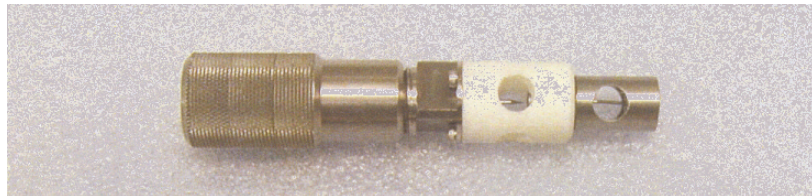

Figure 6-12 Nanospray Assembly
3. Shake down the assembly to allow the liquid to flow forward in the Nanospray tip (Figure 6-12).